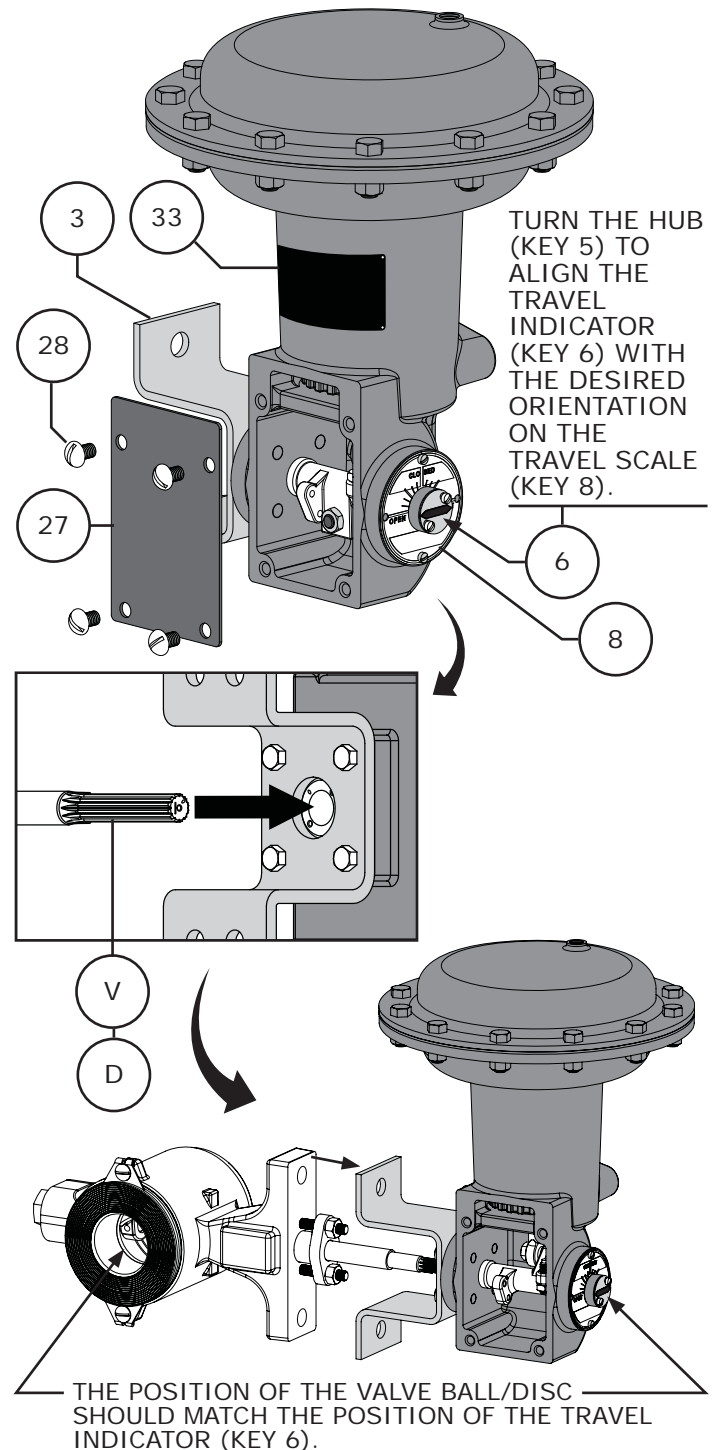
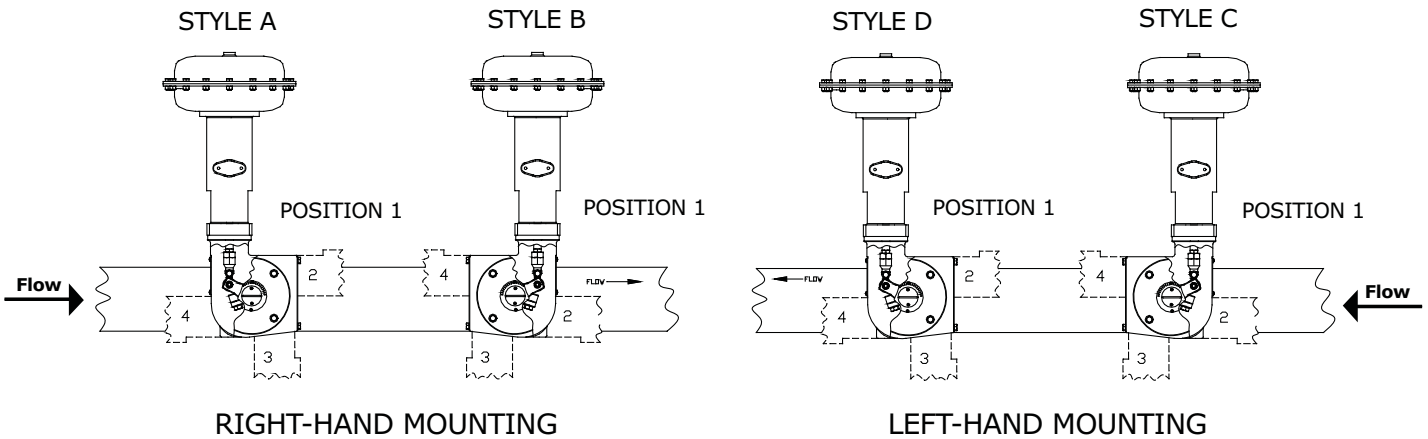

Figure 3 Actuator Mounting
Figure 10 Mounting Orientation and Valve Applications
Refer to Figures 3 & 4 of Sales Bulletin.
Check the packing list, verify that the list includes all the materials in the shipping container before unpacking. Valve information can be found on the nameplate (Key 33). Refer to Figure 3 for nameplate location.
8 Slide the actuator onto the valve shaft as shown in Figure 3. Refer to Figures 10 for actuator mounting positions and orientations.
Style A is right-hand mounted and **Style D** is left-hand mounted, in all other ways **Styles A** and **D** are identical. Refer to Figure 10.
Style B is right-hand mounted and **Style C** is left-hand mounted, in all other ways **Styles B** and **C** are identical. Refer to Figure 10.
- 4 Place the mounting yoke (Key 3) in the desired orientation (refer to Table 2 and Figure 10 for Mounting Positions) on the opposite side of the actuator. Secure the mounting yoke in place using the cap screws (Key 4), tighten the cap screws to the torque specification listed in Table 4.
- 1 Refer to Figure 10 and Table 2, determine the desired mounting style and orientation. Install the mounting yoke (Key 3) onto the actuator housing (Key 1) with the cap screws (Key 4). Refer to Table 4 for cap screw torque values.